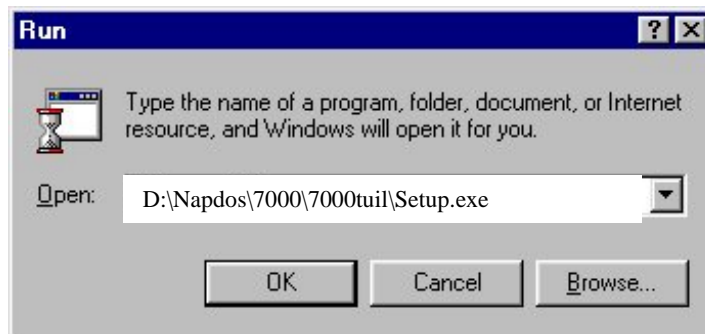

Figure 2-2-1. Running "setup.exe" to install the 7000 Utility.
- Enter the "[drive]:\NAPDOS\7000\7000Util\Setup.exe" as in Figure 2-2-1.